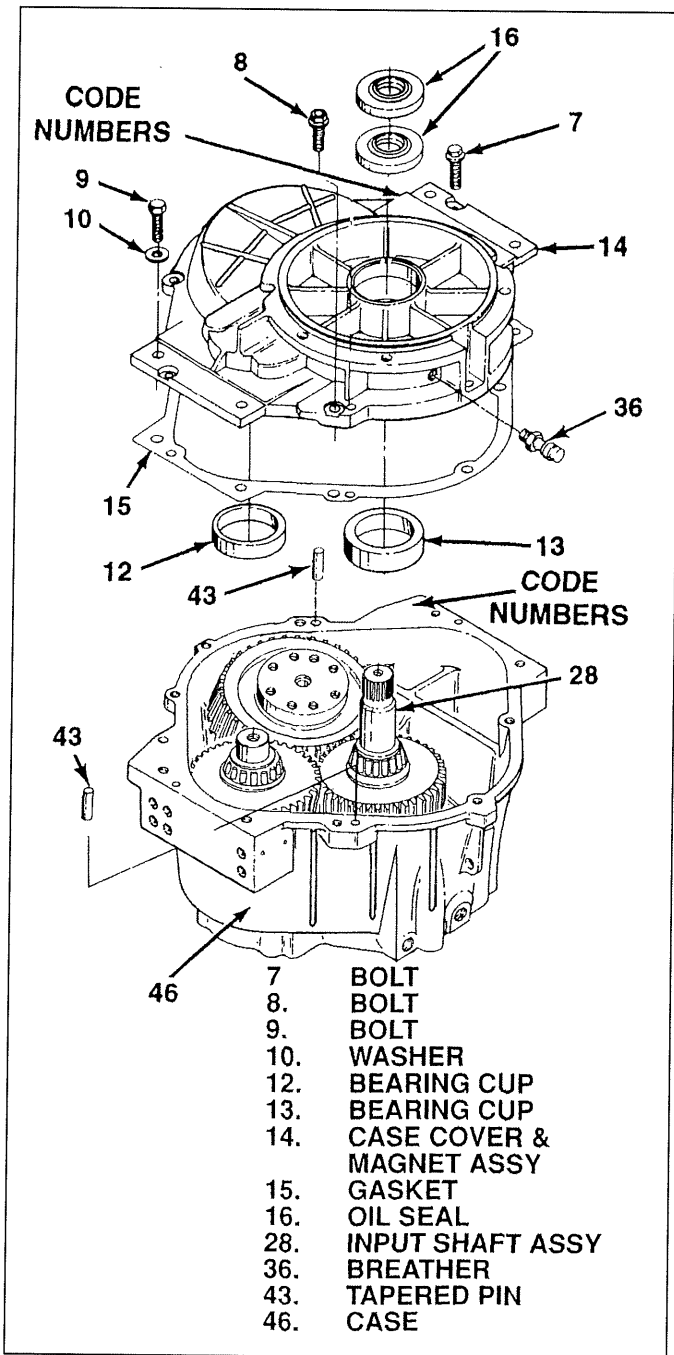
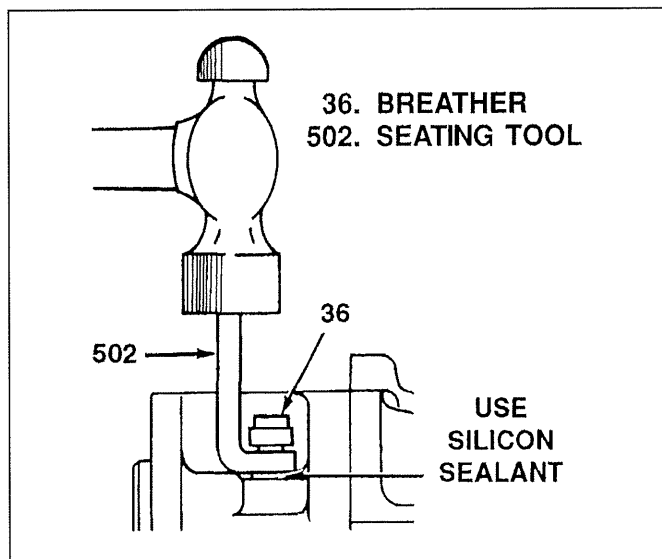

Figure 5-18: Case Cover and Bearing Cup Assembly
Figure 5-25: Breather Installation
5-20 ASSEMBLY AND INSTALLATION OF CASE COVER ASSEMBLY Assemble as follows (see figure 5-18):
6. If breather (36, figure 5-18) was replaced install new breather with silicone sealant and seat with seating tool as shown in figure 5-25.